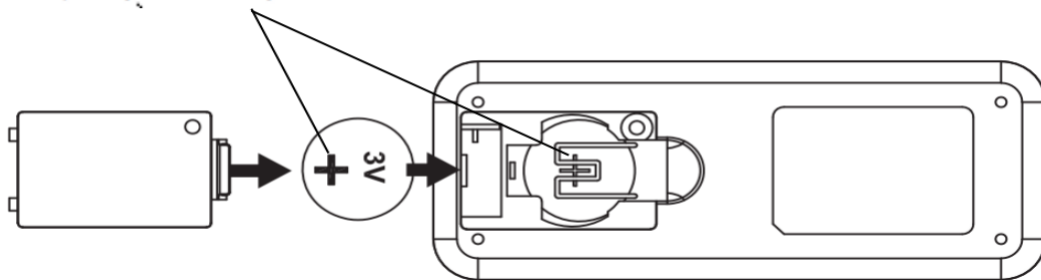

Fig. 11c
3. Install the 3V CR2032 DC battery into the remote. Please make sure the polarity of the battery is correct. (Fig. 11c)
- Install the batteries into the remote. Please make sure the polarity of the battery is correct. (Fig. 11c)
- Install the 3V DC battery in the compartment. Please make sure the polarity of the battery is correct. (Fig.11c)